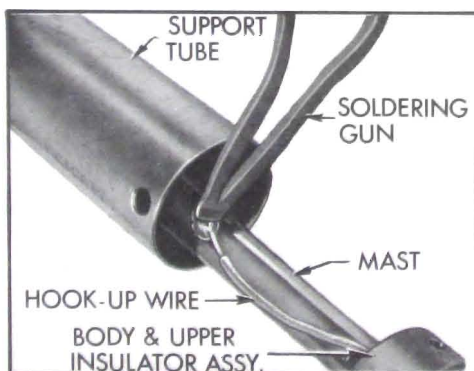

Figure 11-12—Hook-Up Wire to Mast Connection
3. Unsolder hook-up wire from 0.40 inch diameter section of the mast (see Figure 11-12).
hook-up wire to the 0.40 inch diameter section of the mast section, using rosin flux solder (see Figure 11-12).